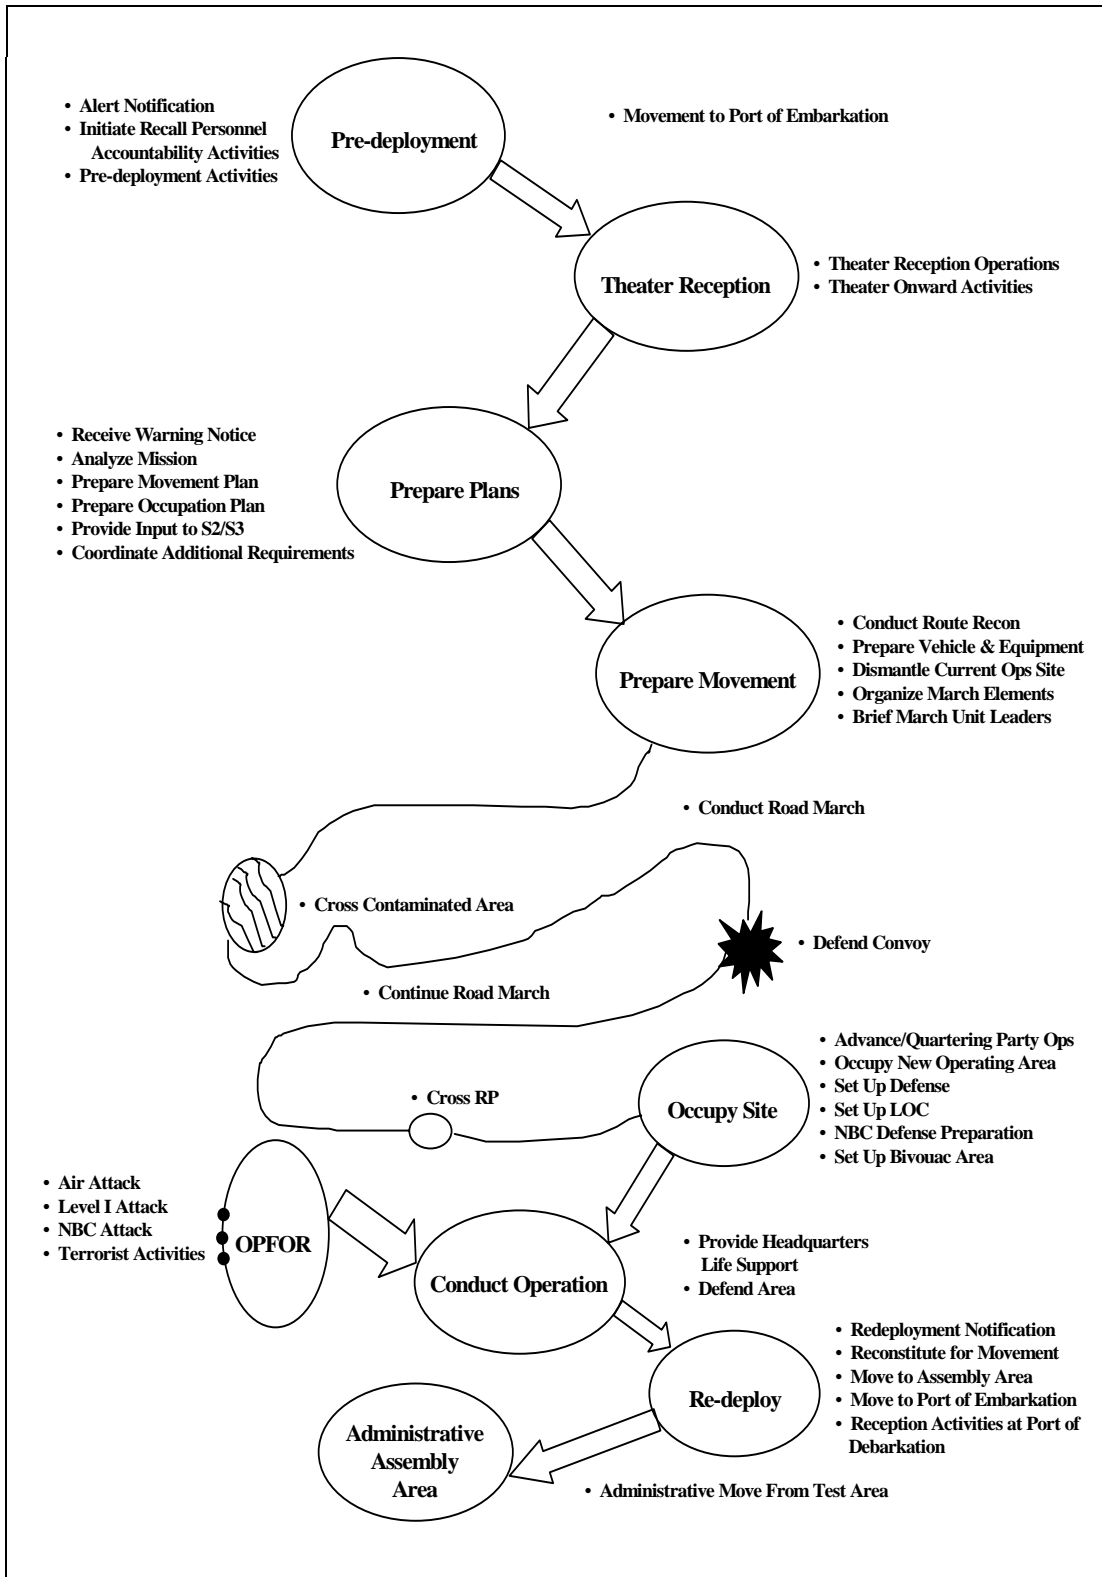

Figure 6-1. Example of Graphic Scenario
a. **Preparing the Evaluation Instrument.** The sample evaluation scenario for the unit is provided in Table 6-1. Figure 6-1, page 6-4, is a graphic representation of the scenario.